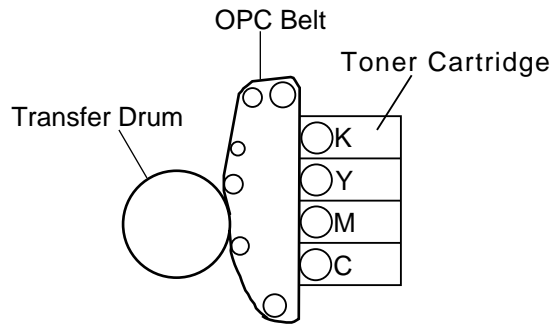

Fig4-3
②. Basic Process of Color Printing
- Printer has the Toner Cartridge of each colors, yellow, magenta, cyan and black as shown in Fig.4-3.